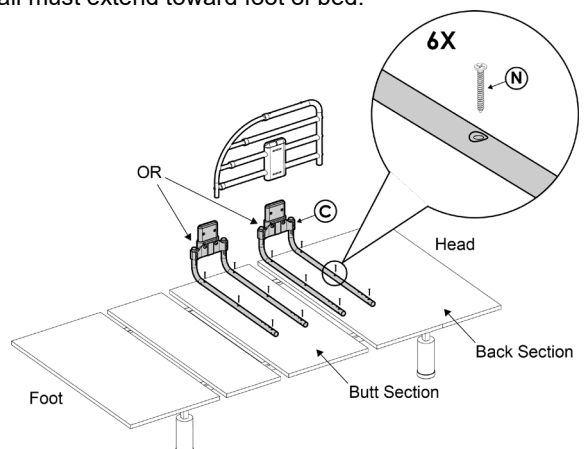

FIGURE 5.1
5.1. Attach assembly to Back Section or Butt Section of mattress base using **N** – do not overtighten screws. See *FIGURE 5.1* **IMPORTANT:** Installed rail must be at least **12.5"** from end of mattress. There should be no gap between **C** and mattress. Rail must extend toward foot of bed.